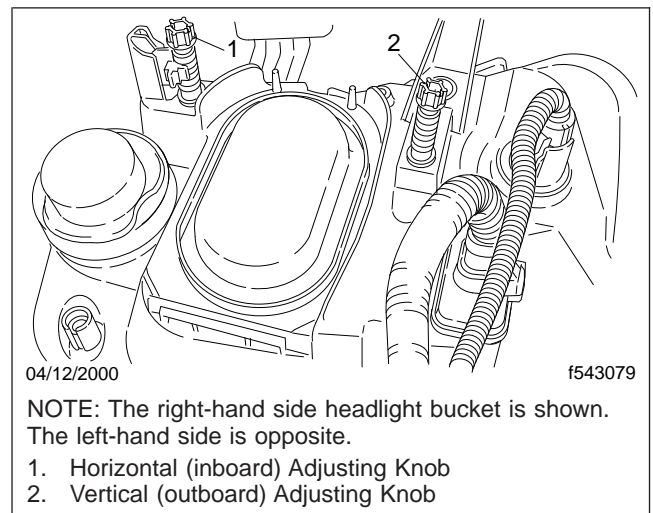

Fig. 14.3, Headlight Adjusting Knobs
1. Lift the flap over the rear end of the headlight bucket to expose the two plastic adjusting knobs. See Fig. 14.3.